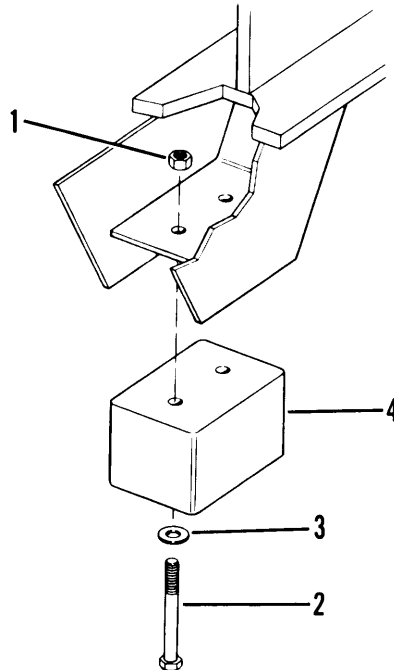

Figure 4-58. Suspension Bumper
- (1) Remove two nuts (1, fig. 4-58) , bolts (2) and washers (3) .
- (2) Remove suspension bumper (4) 1
- (3) Repeat steps 1 and 2 for other suspension bumpers as needed.
- (1) Place suspension bumper (4, fig. 4-58) into position.
- (2) Install two washers (3), bolts (2) and nuts (1).